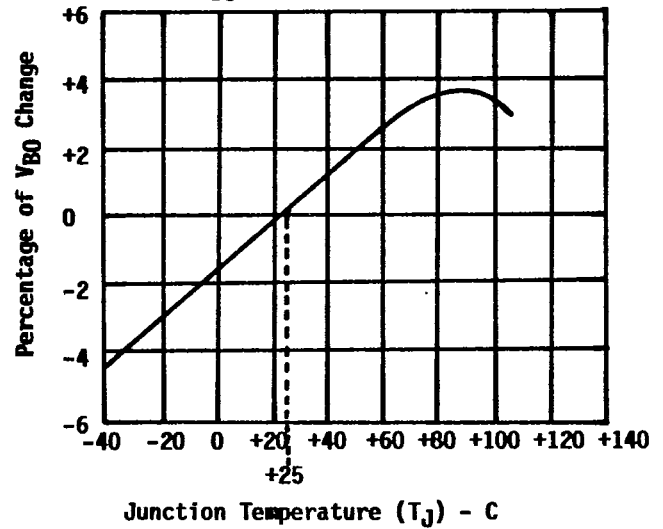

Figure 3:
** See Figures 3 and 4 for Test Circuit and Waveforms.
Test Circuit Waveforms (See Figure 3)